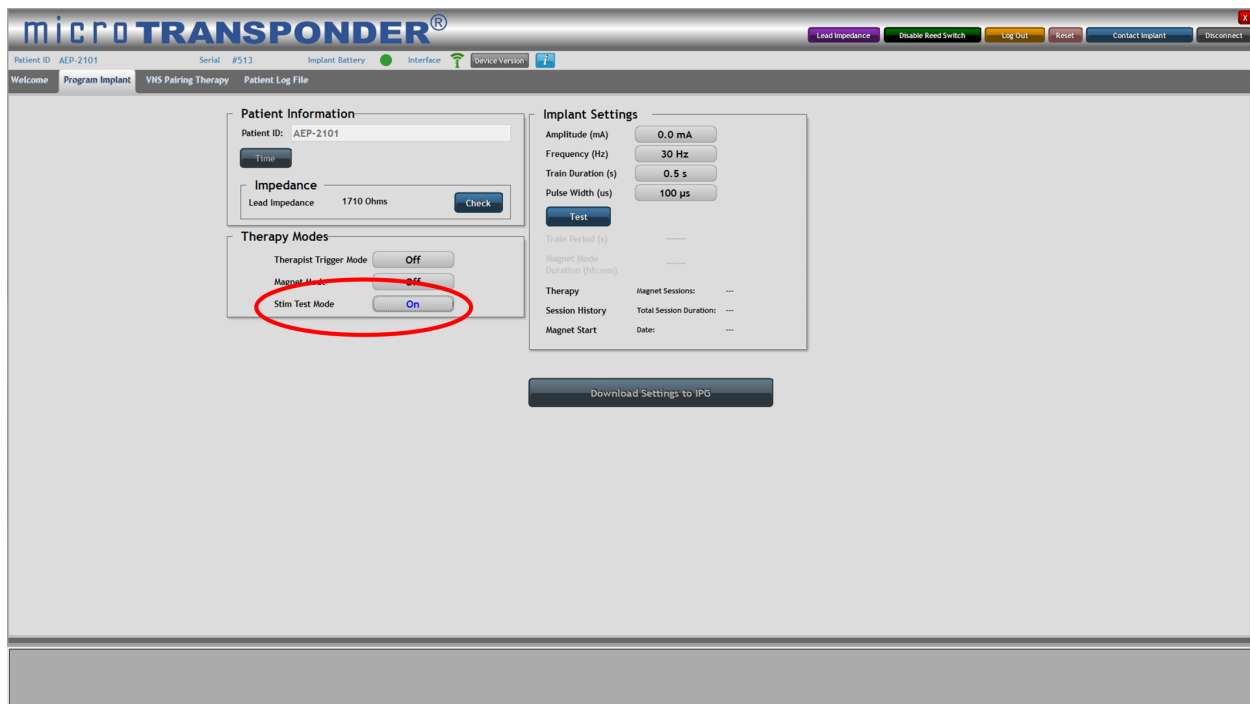

Figure 4.16: Stim Test Mode
The **Stim Test Mode** (see Figure 4.16) is used to test the parameters displayed in the **Implant Settings** menu.
1. Select the button next to **Stim Test Mode**. The button will now toggle to **On** (see Figure 4.16).